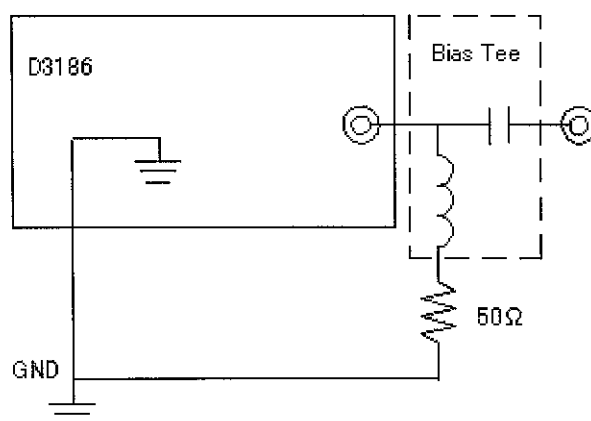

Figure 1 Removing Direct Current Using a Bias Tee
2. When filtering DC current output from this instrument, it is recommended that a Bias Tee be used as shown in the Figure 1.